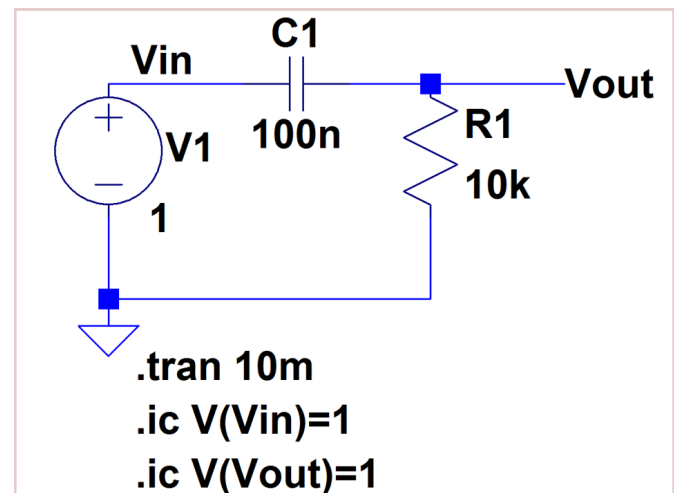

Figure 12. High-pass RC circuit.
3. Simulate the schematic shown in Fig. 12. Verify the calculated time constant. **(Schematic, Plot)**